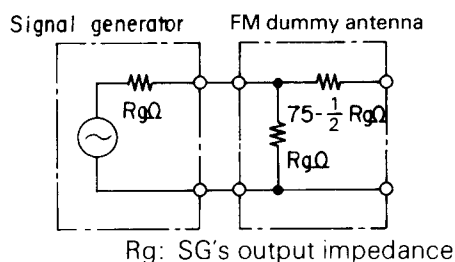

Fig. 10
3. FM dummy antenna is shown in Fig. 10.